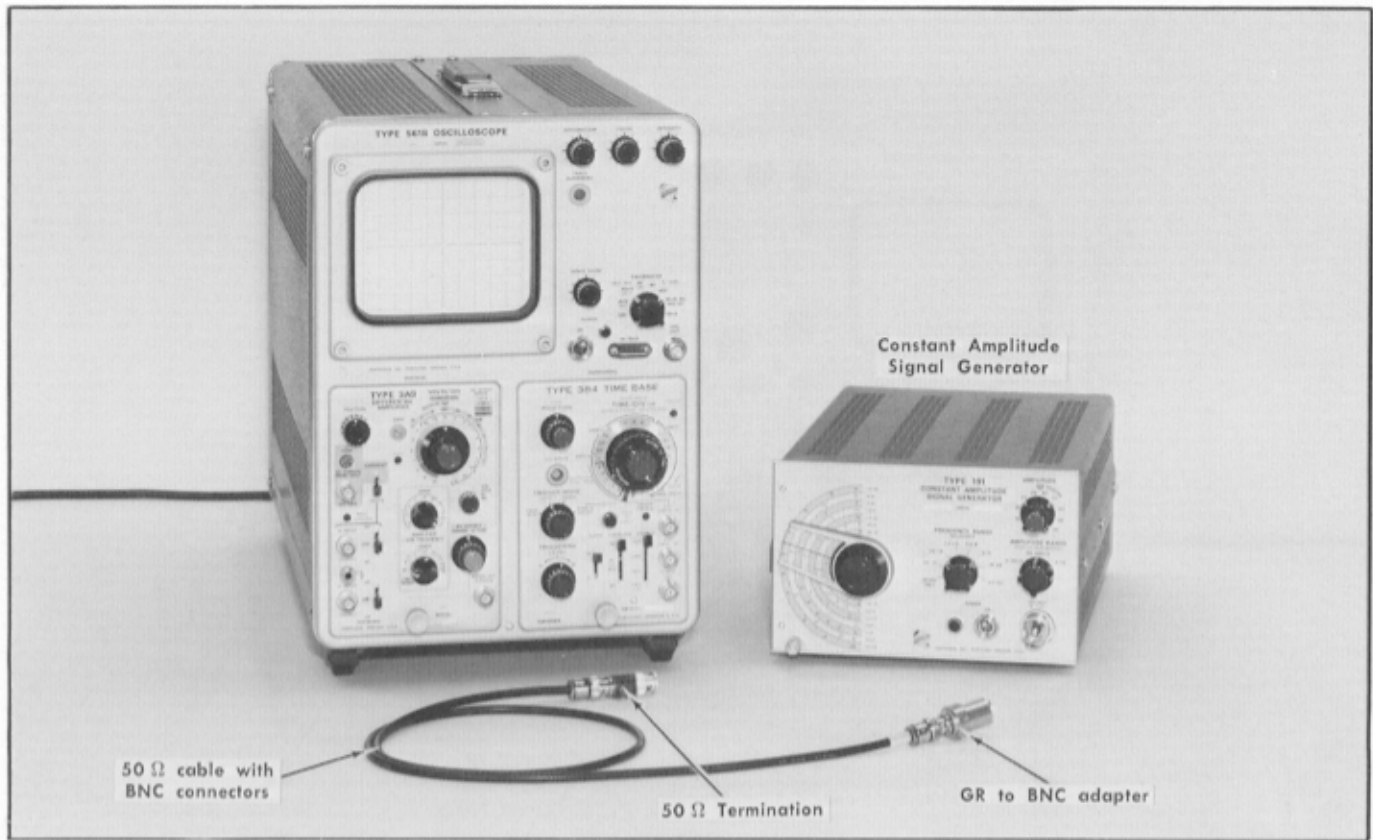

Fig. 5-32. Equipment required for step 26.
a. Test equipment is shown in Fig. 5-32.